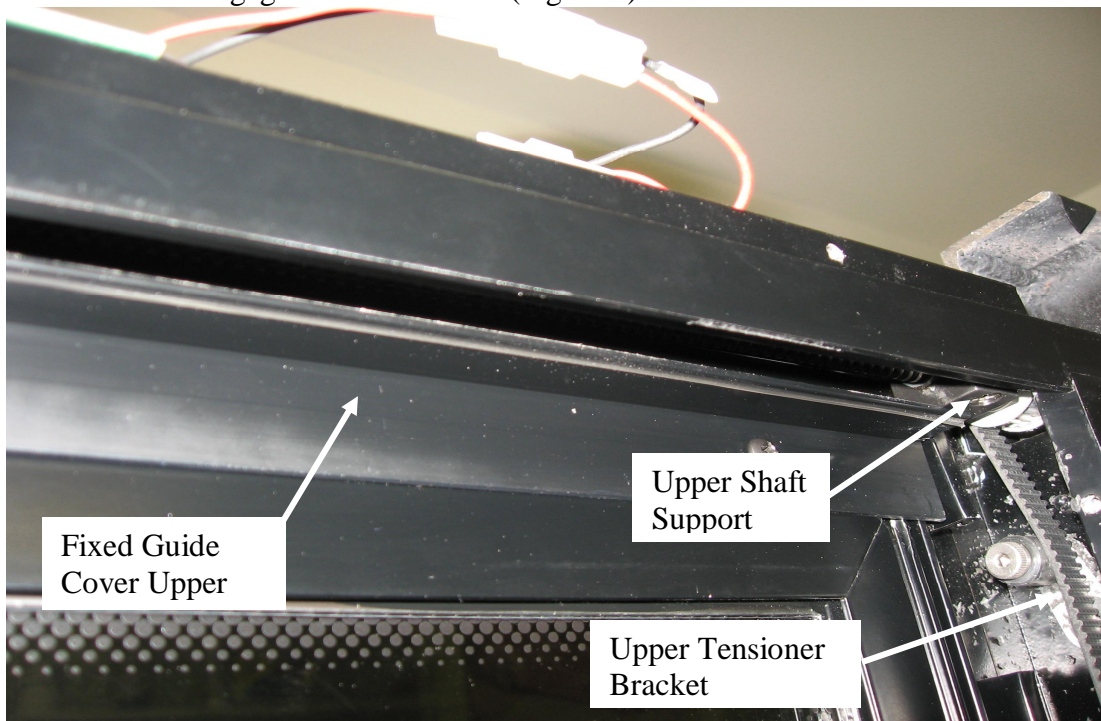

Figure 9
5) Remove the upper fixed guide cover. Loosen the upper tensioner bracket. Loosen the 2 screws that secure the upper support block. Back the screws off to the point where the last of the threads are engaged with the frame (Figure 9)